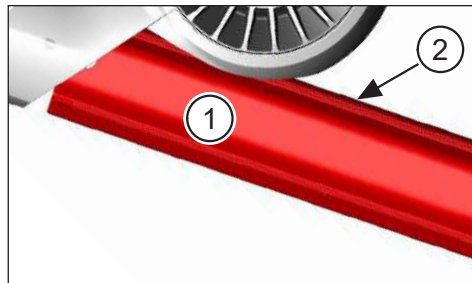

Fig. 14: Aligning the battery
- Align the battery (No. 1 in Fig. 14) so that the groove (No. 2 in Fig. 14) in the battery is aligned with the guide in the down tube.